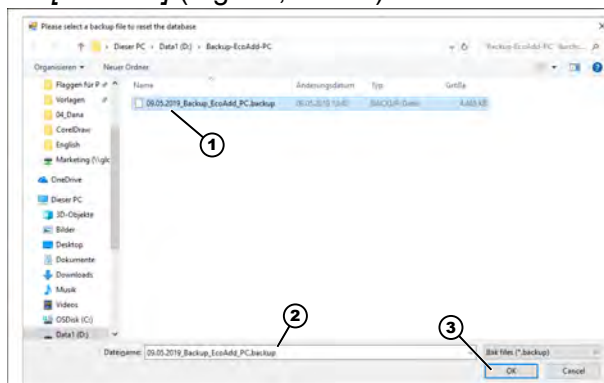

Fig. 56: Select the storage location for the backup file and enter a file name.
4. Specify a storage location as shown under Fig. 56, item 1 and select the required backup file.
⇒ The program displays the backup file in the field shown in Fig. 56, item 2.
5. Choose [OK] (Fig. 56, item 3).